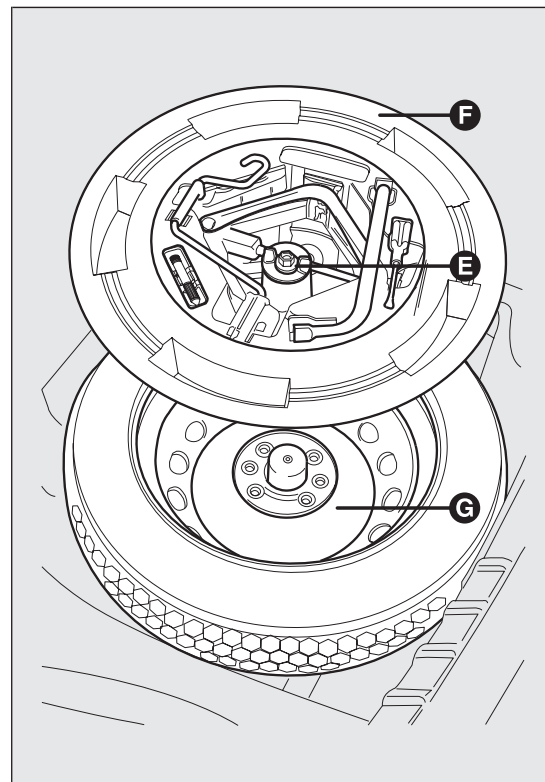

fig. 142
- loosen fastener E fig. 142;
- ❑ for versions equipped with space-saver wheel, loosen fastener E fig. 142, take tool box F, position it near the wheel to be changed and then take space-saver wheel G;